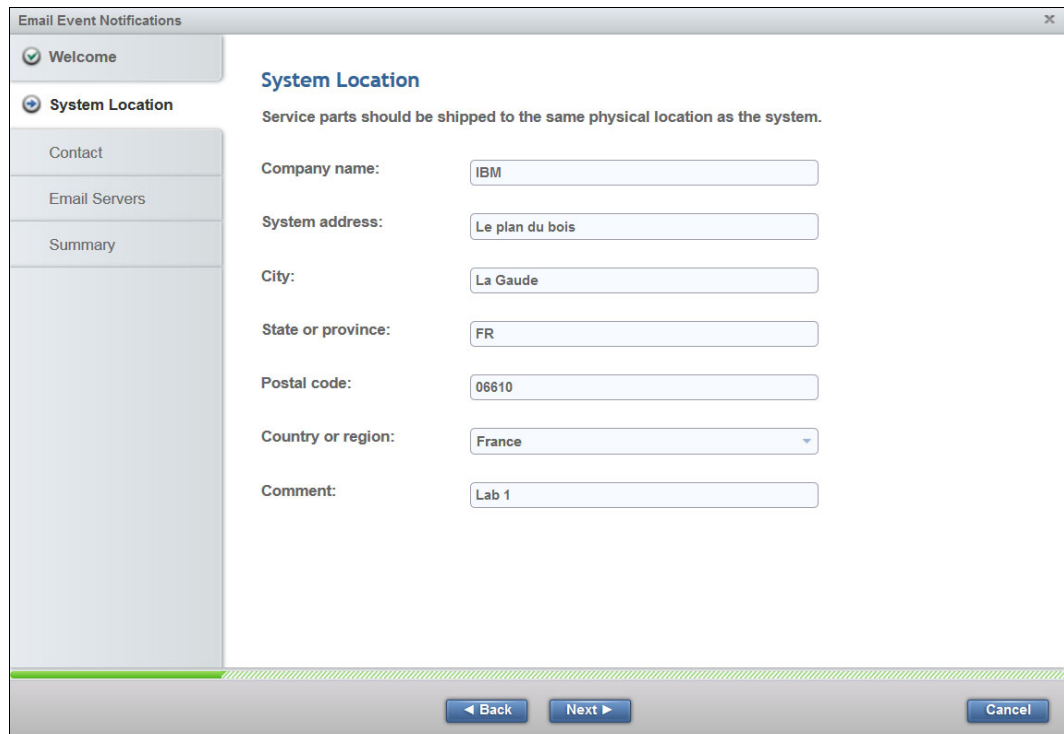

Figure 9-5 System Location panel
- System Location panel (Figure 9-5) is important for ensuring that any open support tickets have the correct equipment location. Complete the form and click **Next**.